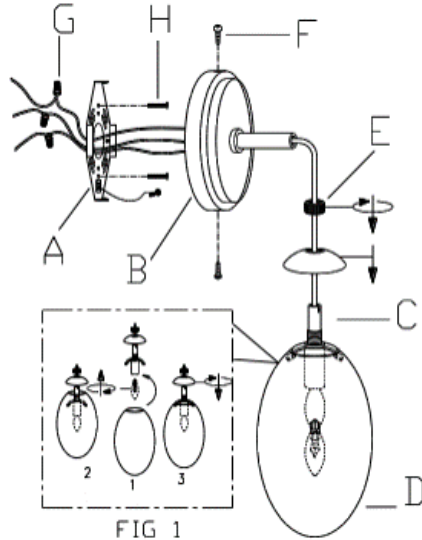

FIG 1
1. REMOVE ALL PACKING CONTENTS AND PARTS FROM THE CARTON(S) CAREFULLY
4. PULL THE ELECTRICAL CORD OF "J BOX" THROUGH THE EXIT HOLE OF THE MOUNTING PLATE (A)
5. AS FIG 1, UNSCREW THE METAL RING (E) OFF THE SOCKET ASSEMBLY (C), INSERT TYPE B 40W BULB (OR SUITABLE CFL 9W/LED 4W, NOT INCLUDED) IN THE SOCKET, THEN ATTACH THE GLASS SPHERE (D) TO THE SOCKET PROPERLY, THEN SCREW THE METAL RING (E) TO SECURE THE GLASS SPHERE TILL TIGHT.
6. ATTACH THE GROUND WIRE FROM THE FIXTURE TO THE GROUND JUNCTION BOX WIRE FROM THE OUTLET (USUALLY GREEN OR BARE WIRE). FASTEN EACH TOGETHER WITH A PLASTIC WIRE CONNECTOR (G) AND WRAP THE CONNECTION WITH ELECTRICAL TAPE. IF YOUR OUTLET BOX DOES NOT HAVE A GROUND WIRE, INSERT THE GREEN GROUND SCREW INTO THE MOUNTING PLATE (A) FACING DOWN, AND WRAP THE FIXTURE'S BARE GROUND WIRE AROUND THE GROUND SCREW. IT IS IMPERATIVE THAT THE OUTLET BOX IN YOUR HOME BE PROPERLY GROUNDED.
7. CONNECT THE NEUTRAL FIXTURE WIRE TO THE NEUTRAL JUNCTION BOX WIRE (USUALLY WHITE). FASTEN EACH TOGETHER WITH A WIRE CONNECTOR (G) AND WRAP THE CONNECTION WITH ELECTRICAL TAPE. BE SURE NO STRANDS ARE EXPOSED.
8. CONNECT THE HOT FIXTURE WIRE TO THE HOT JUNCTION BOX WIRE (USUALLY BLACK). FASTEN EACH TOGETHER WITH A PLASTIC WIRE CONNECTOR (G) AND WRAP THE CONNECTION WITH ELECTRICAL TAPE. BE SURE NO WIRE STRANDS ARE EXPOSED. DO NOT REVERSE THE HOT AND NEUTRAL CONNECTIONS OR SAFETY WILL BE COMPROMISED.
10. ATTACH THE MOUNTING PLATE (A) TO THE OUTLET BOX USING THE MOUNTING SCREWS (H). TIGHTEN WITH A SCREWDRIVER (I).
11. ATTACH THE BACK PLATE (B) TO THE MOUNTING PLATE (A) USING THE ENCLOSED PLATE SCREWS (F). TIGHTEN SCREWS WITH A SCREWDRIVER.